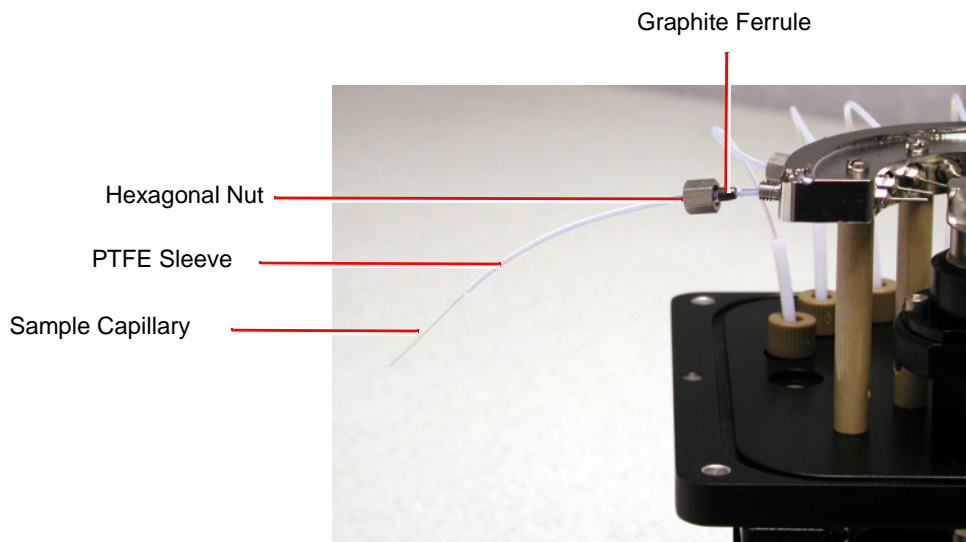

Figure 8-27 Sample Capillary, PTFE Sleeve, Nut and Ferrule
- Slide a 93 mm length of 1/16 inch o.d., 0.010 inch i.d. PTFE sleeve over the free end of the sample capillary. Feed this into the probe support segment until it is firmly located in the segment (Figure 8-27).
- Slide a graphite ferrule and the hexagonal nut over the PTFE sleeve (Figure 8-27).